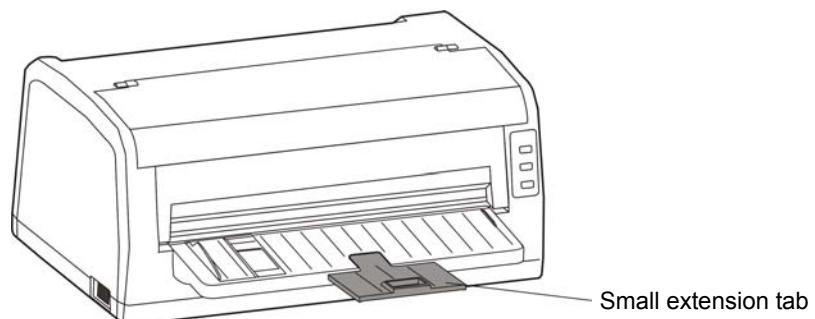

Figure 3-4 Pull out the Small extension tab
4. Please pull out the small extension tabs if the size of paper is long and requires extra support, as shown in Figure 3-4.